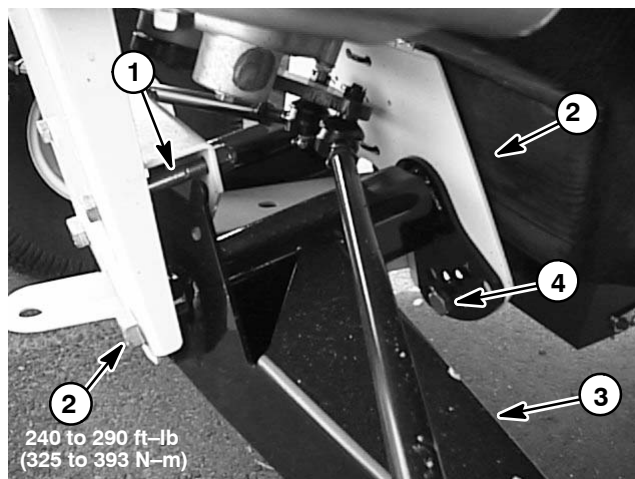

Figure 5
3. Remove travel limiting bolt (Fig. 5).
4. Loosen centering bolts (front and rear) in the A–arm (Fig. 5).
8. Replace travel limiting bolt (Fig. 5 and 6).